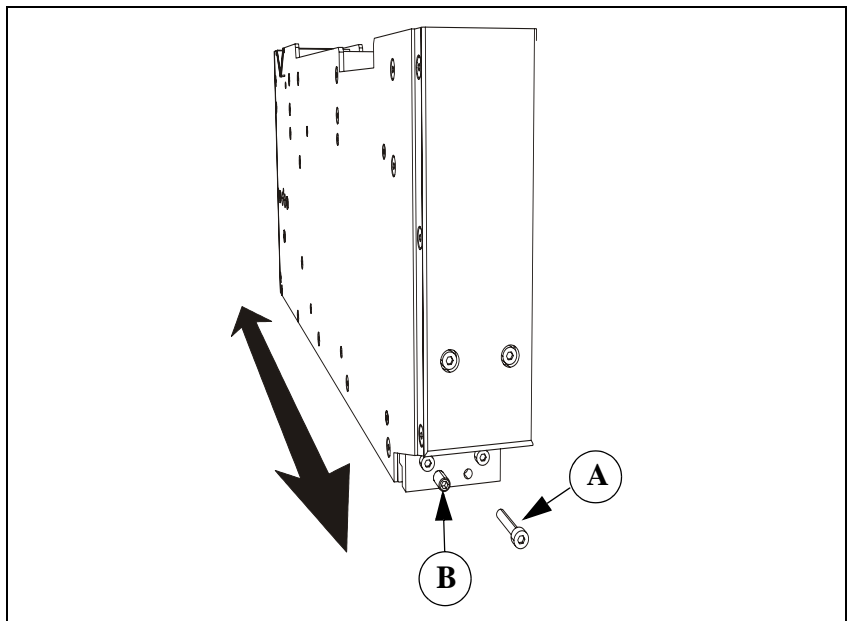

Figure 5-13. Adjust camera Y-position
6. Loosen screw located in the front of the camera box ('A' in figure 5-13).
7. Adjust the Y position of the camera with screw (B). By turning the screw clock-wise the camera can be moved towards the front of the machine (on the monitor it looks as if the camera is moving downwards).